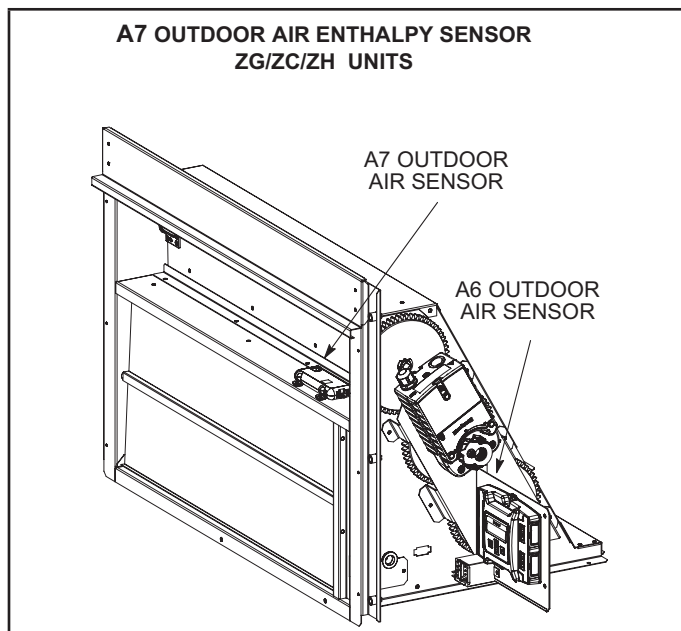

FIGURE 2
- 4 - Replace existing RT26 OA sensor with new A7 sensor from this kit. See FIGURE 2 for sensor location.
- 4 - Replace existing RT26 OA sensor with new A7 kit sensor set to "OA". See FIGURE 2 for sensor location.